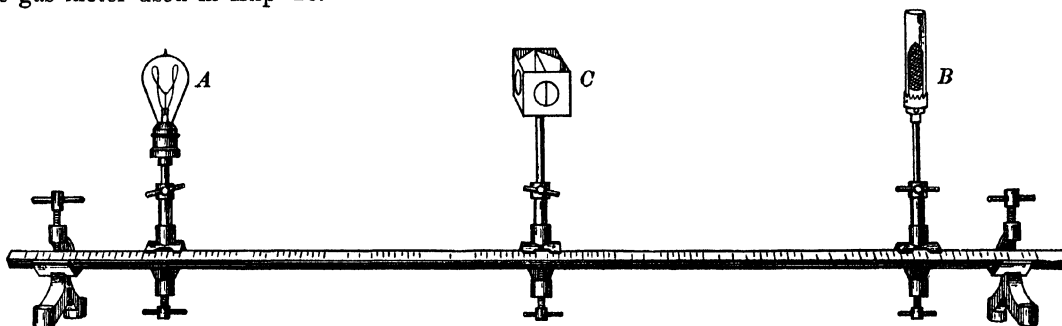

FIG 102
**I. The Welsbach burner.** Place a 40 watt (34 C.P.), or a 60 watt (53 C.P.), tungsten lamp\* at *A*, and a Welsbach burner at *B* (see Fig 102) The Welsbach burner should be connected to the gas meter used in Exp 18.